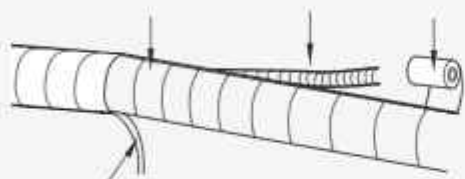

Fig.15
- (2) Reserve a certain length of drain hose and power cord for installation when binding them. When binding to a certain degree, separate the indoor power and then separate the drain hose. (As show in Fig.15)
(3) Bind them evenly.
(4) The liquid pipe and gas pipe should be bound separately at the end.